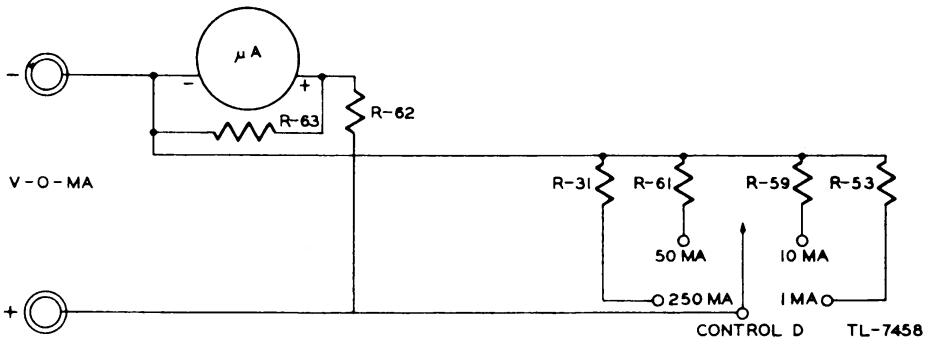

FIG. 17. MODEL 104 COMBINATION TESTER, SIMPLIFIED D-C MILLIAMMETER CIRCUIT
d. *Combination Tester as D-C Milliammeter (fig. 17).* Control D inserts the correct shunt resistor in parallel with the indicating meter, so that for each milliamperes scale the proper resistor is in the circuit.